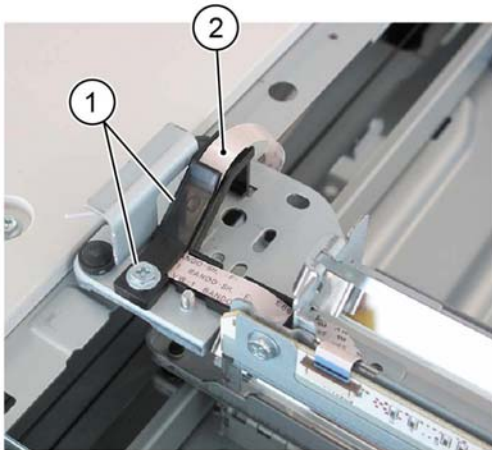
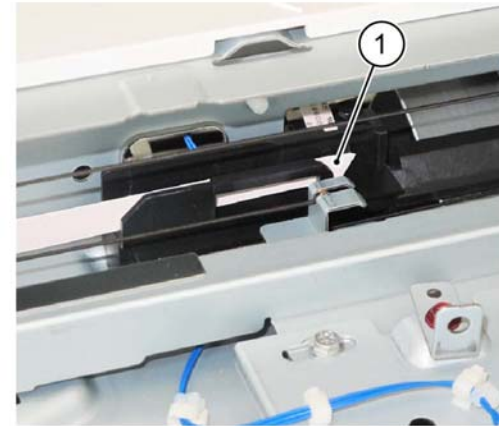

Figure 3 Cable assembly disconnection (1)
Figure 5 Cable assembly disconnection (2)
6. Disconnect the FFC LED cable assembly from the full rate carriage, Figure 3:
- a. Remove the screw, then remove the plate (1).
- b. Disconnect the FFC LED cable assembly (2).
8. Disconnect the FFC LED cable assembly from the guide, Figure 5.